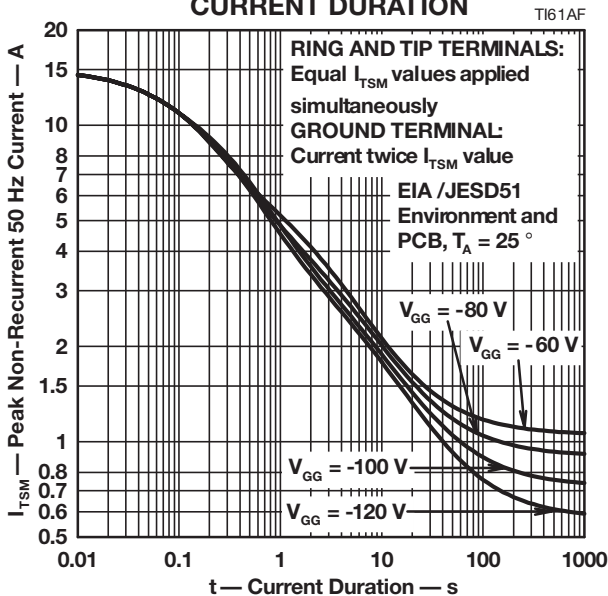

Figure 4
3. Values for $V_{GG} = -120\text{ V}$. For values at other voltages see Figure 4. Above 25 °C, derate linearly to zero at 150 °C lead temperature.